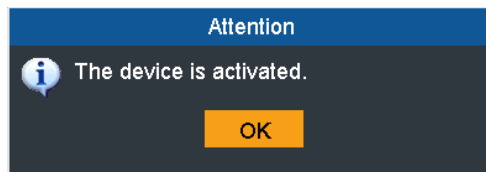

Figure 17 Device Activated
4. Click OK to save the password and activate the device (Figure 17).